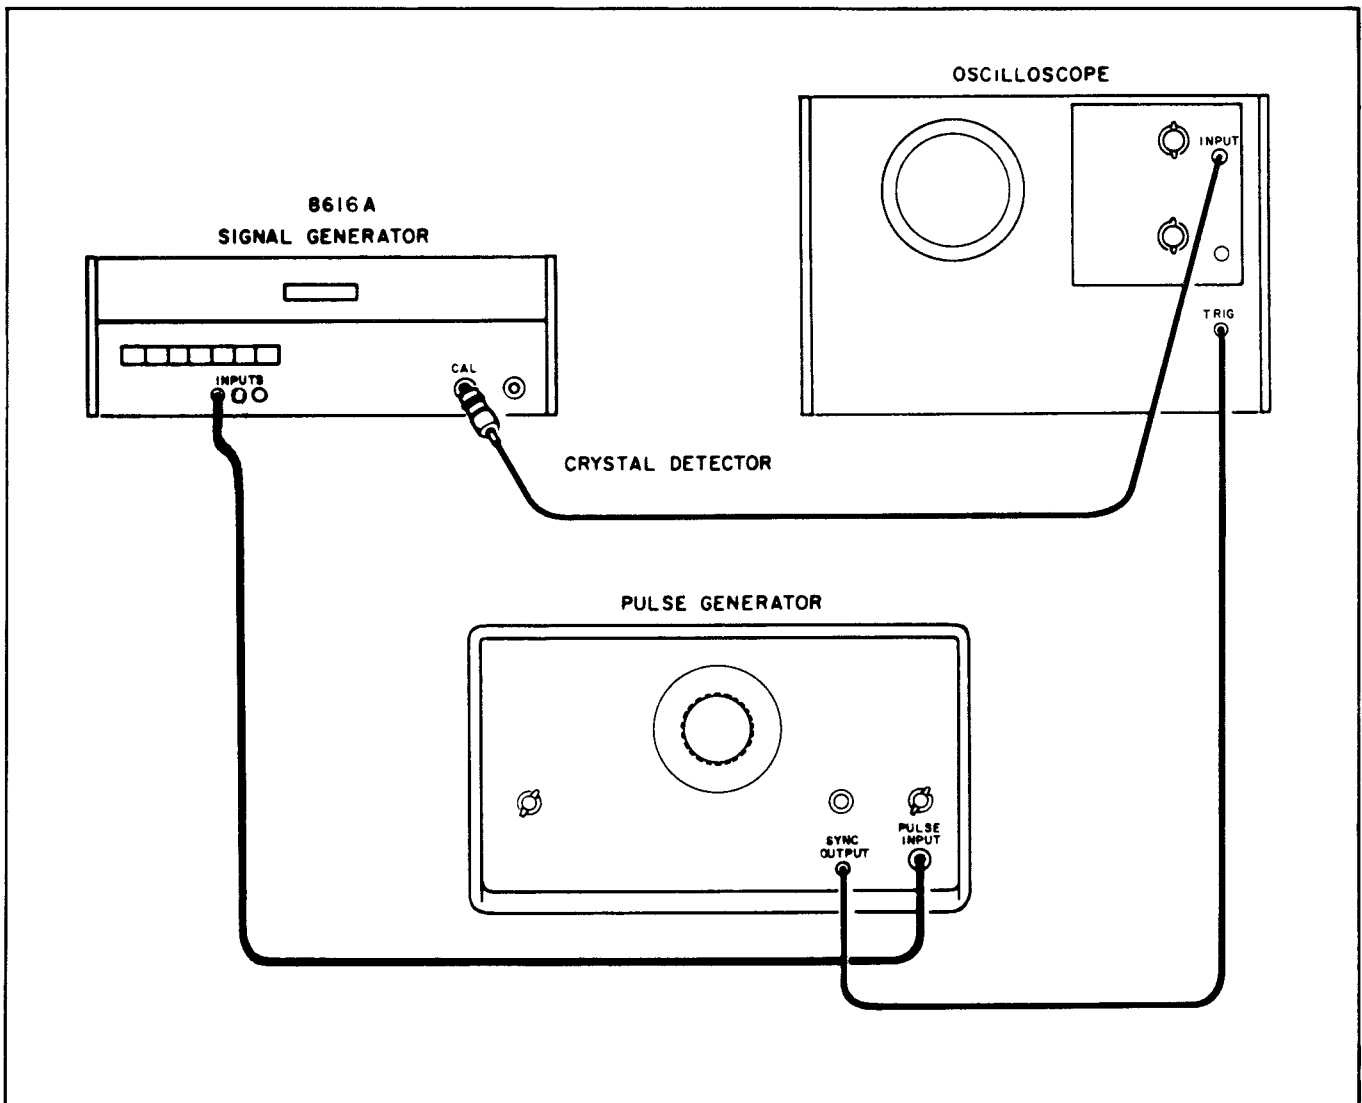

Figure 5-9. External Pulse Check
- a. Connect instruments as shown in Figure 5-9.